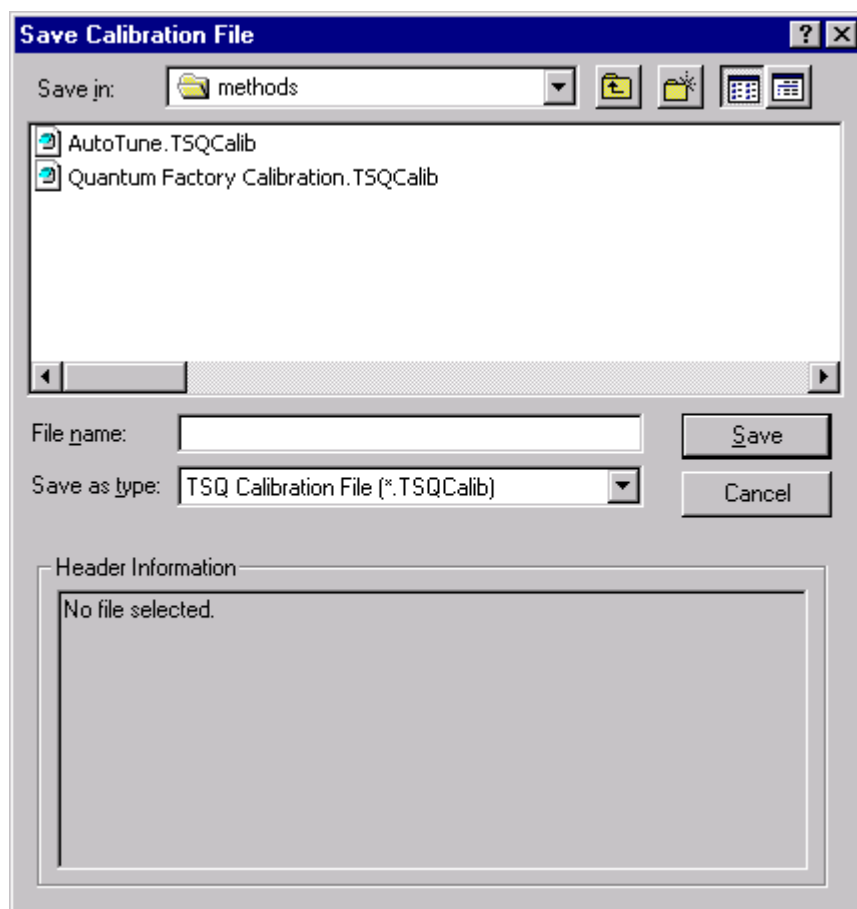

Figure 3-18. Save Calibration File dialog box.
- a. Click on **Save Calib. As** to open the Save Calibration File dialog box. See Figure 3-18.